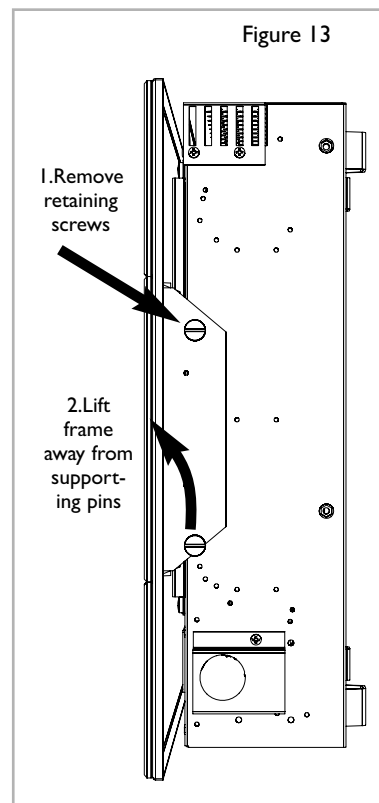

Figure 13
**2)** Simply lift the frame upwards. Refitting is the reverse of removal. Ensure the cut-outs in the bottom of the frame support brackets engage the lower screws on each side of the appliance. See figure 13.